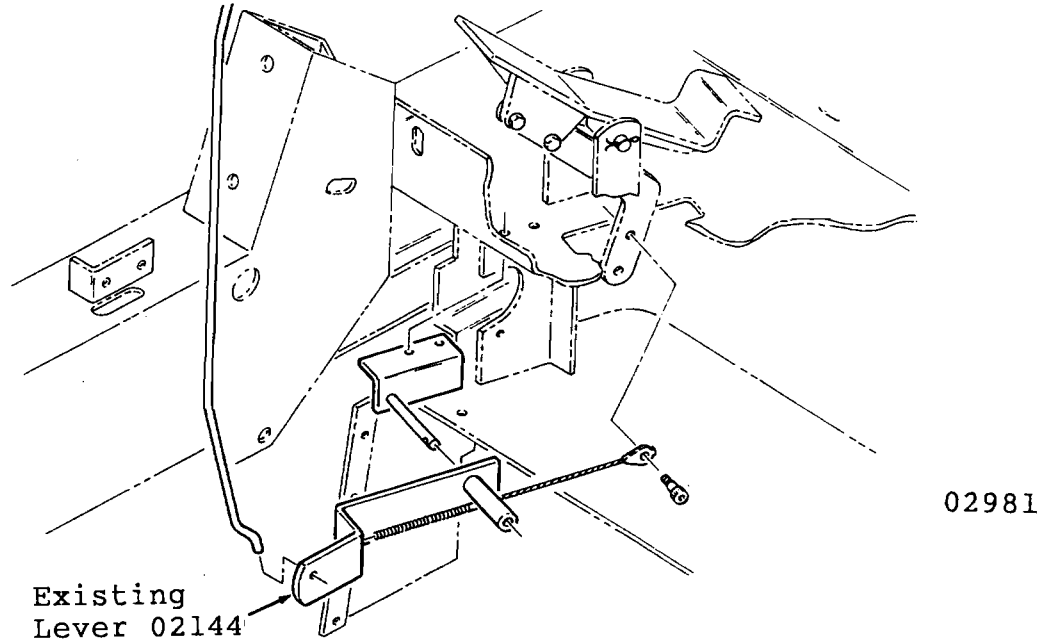
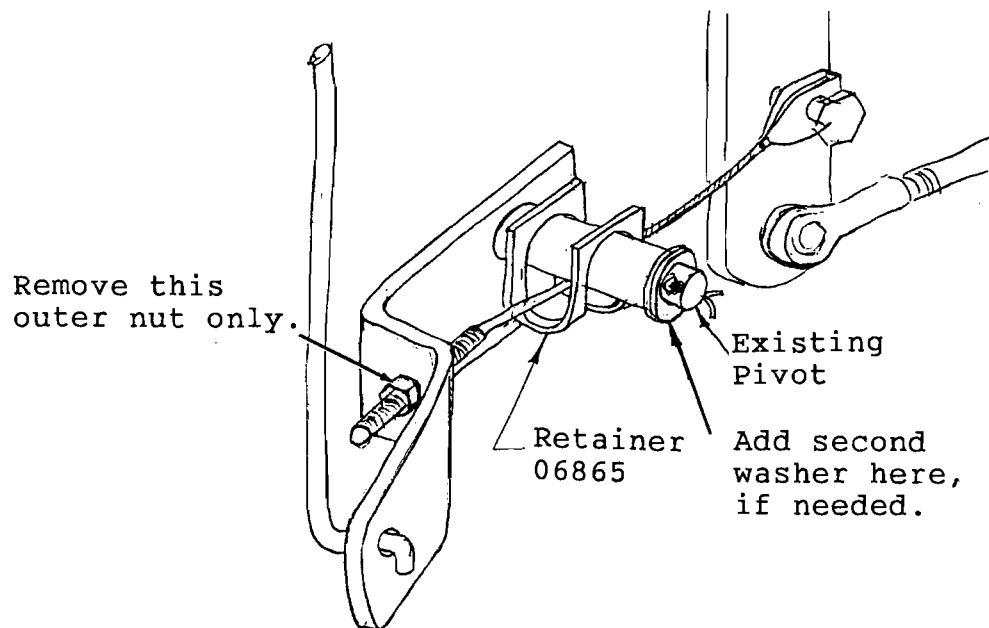

Fig. 1 - EXISTING PARTS
Fig. 2 - INSTALLAION OF CABLE RETAINER 06865
3. See Fig. 1 to locate area and Fig. 2 for the installed kit.
- d. Install the retainer 06865 as shown in Fig. 2.